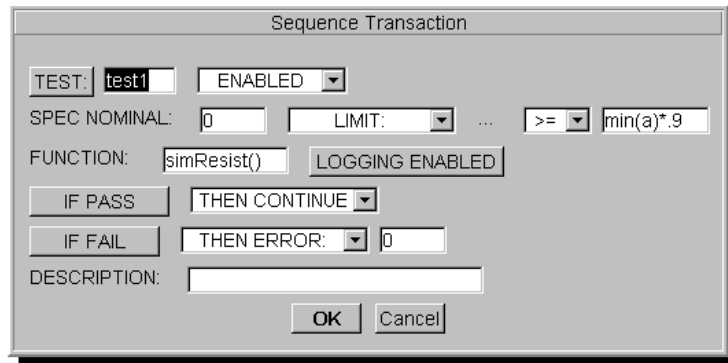

**Figure 14-15. Improved test1 Transaction**
- In the *Sequencer* named *Test Bounds*, the first transaction (*test1*) calls the *UserFunction* *simResist* with the expression *simResist()*, as Figure 14-15. shows.